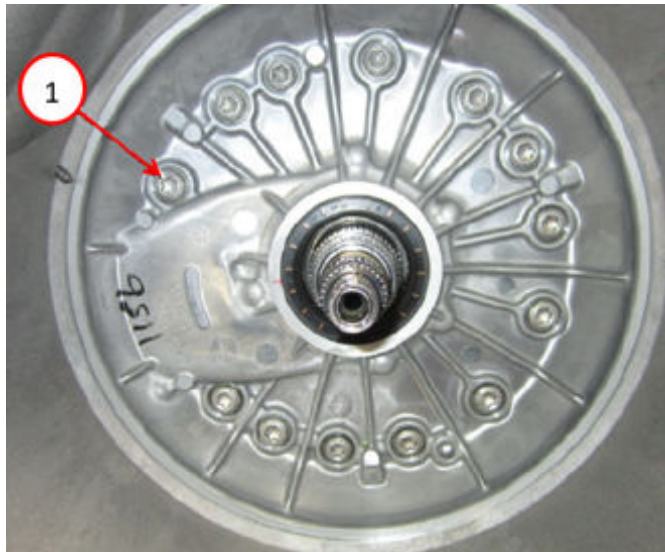

Fig. 39
59. Temporarily install the Manual Park Release (MPR) lever to release tension on the shift fork as follows Fig. 39: